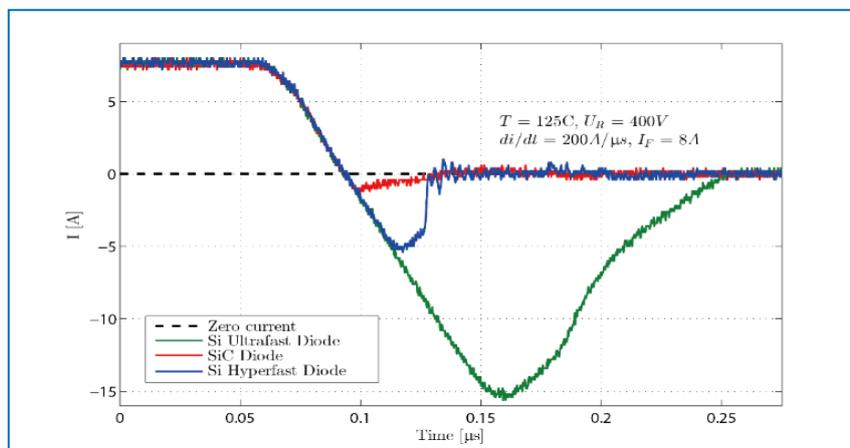
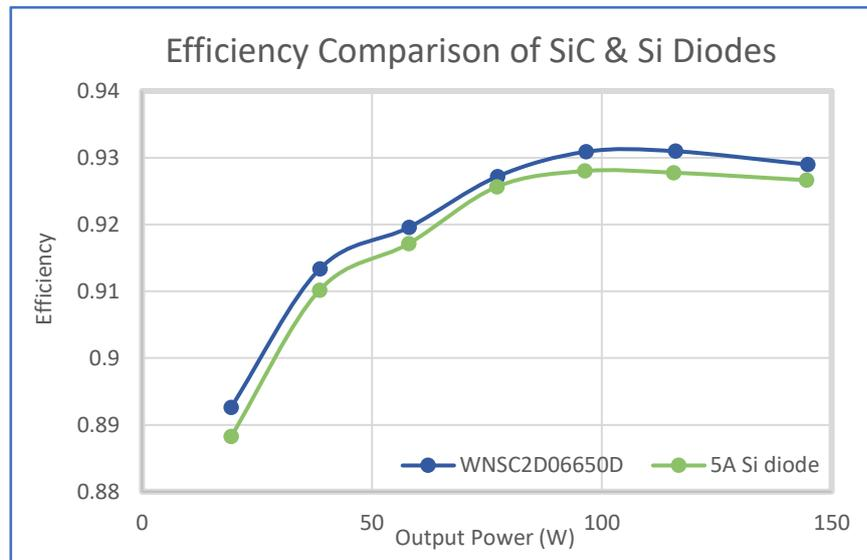

Fig. 3. Graphic showing the nearly zero reverse recovery current of SiC diode (red trace)
Fig. 4. Graphic showing improved power efficiency of converter using SiC diode
- The SiC diode has nearly zero reverse recovery current compared to that of a Si diode and so power losses are reduced as well as heat generation. (See Figure. 3 and Figure. 4)